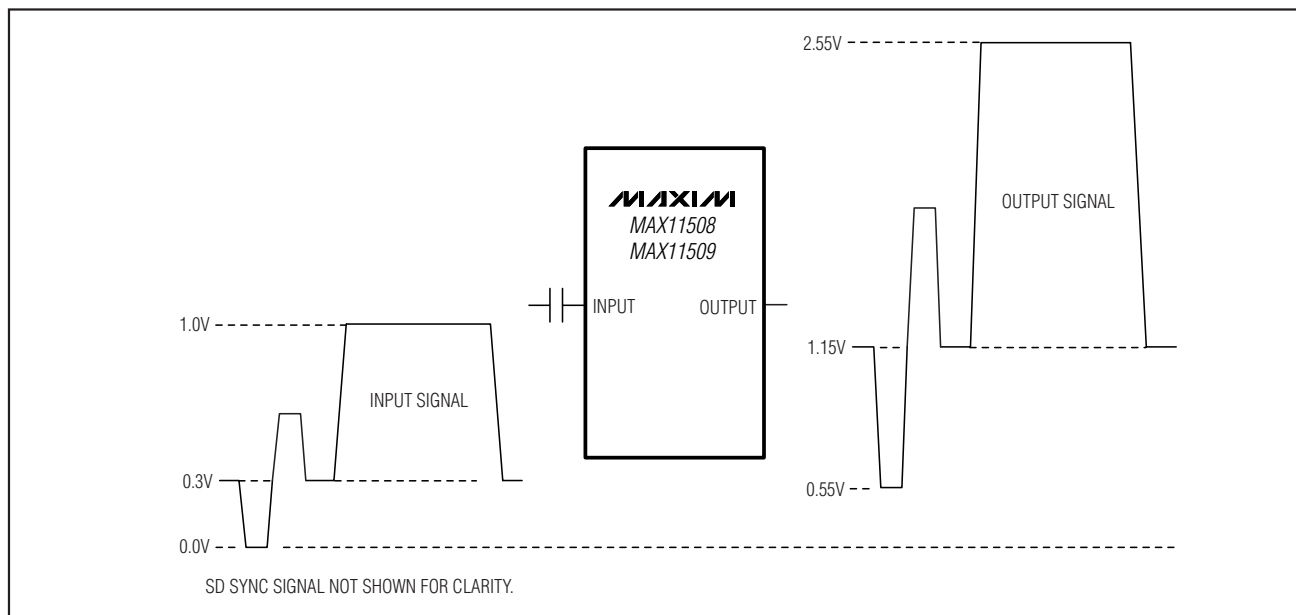

Figure 2. Typical AC-Coupled Signal
The MAX11508 provides a flat passband response and the MAX11509 provides a +0.8dB high-frequency boost at 5MHz (SD), 8.5MHz (PS), and 20MHz (HD) to help with system rolloff. No frequency boost is included in bypass mode. Typical voltage waveforms are shown in Figures 2 and 3.
Typical voltage waveforms are shown in Figures 2 and 3.